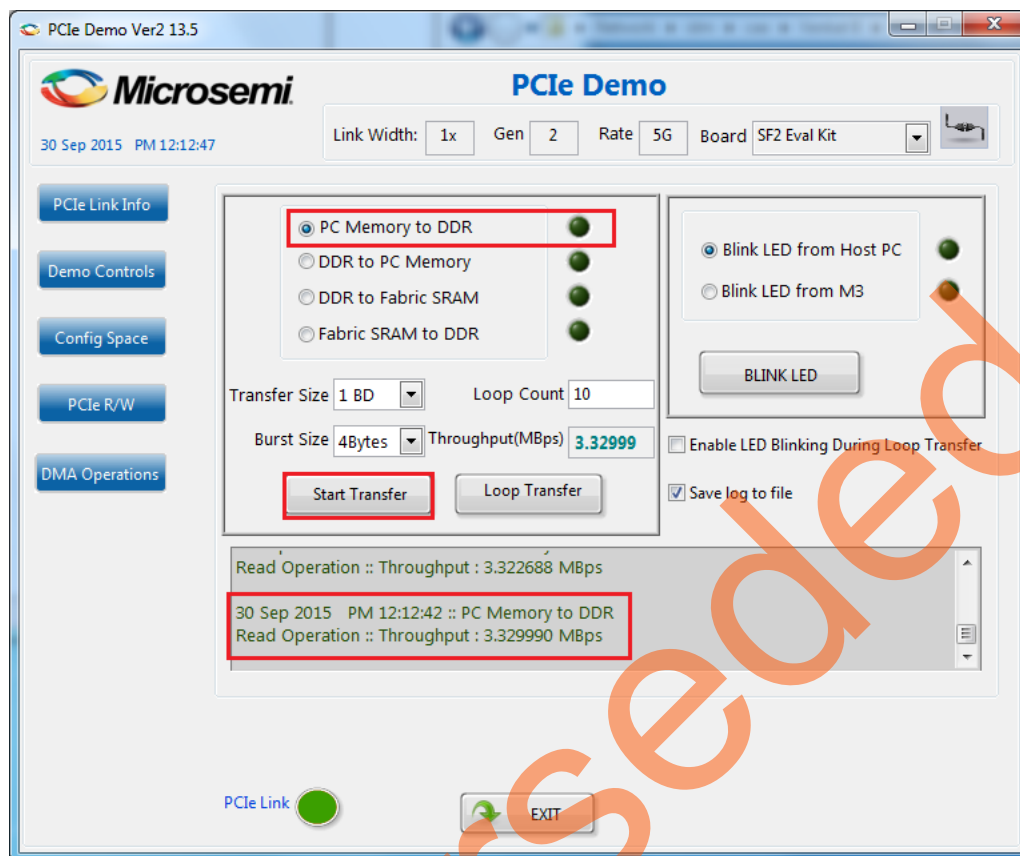

Figure 19 • PC Memory to LPDDR Transfer Throughput
- Select the type of DMA transfer as **PC Memory to SF2 LPDDR**, select any **Transfer Size** and click **Start Transfer** as shown in Figure 19. After completion of data transfer, the GUI displays the **Throughput** in Mbps.